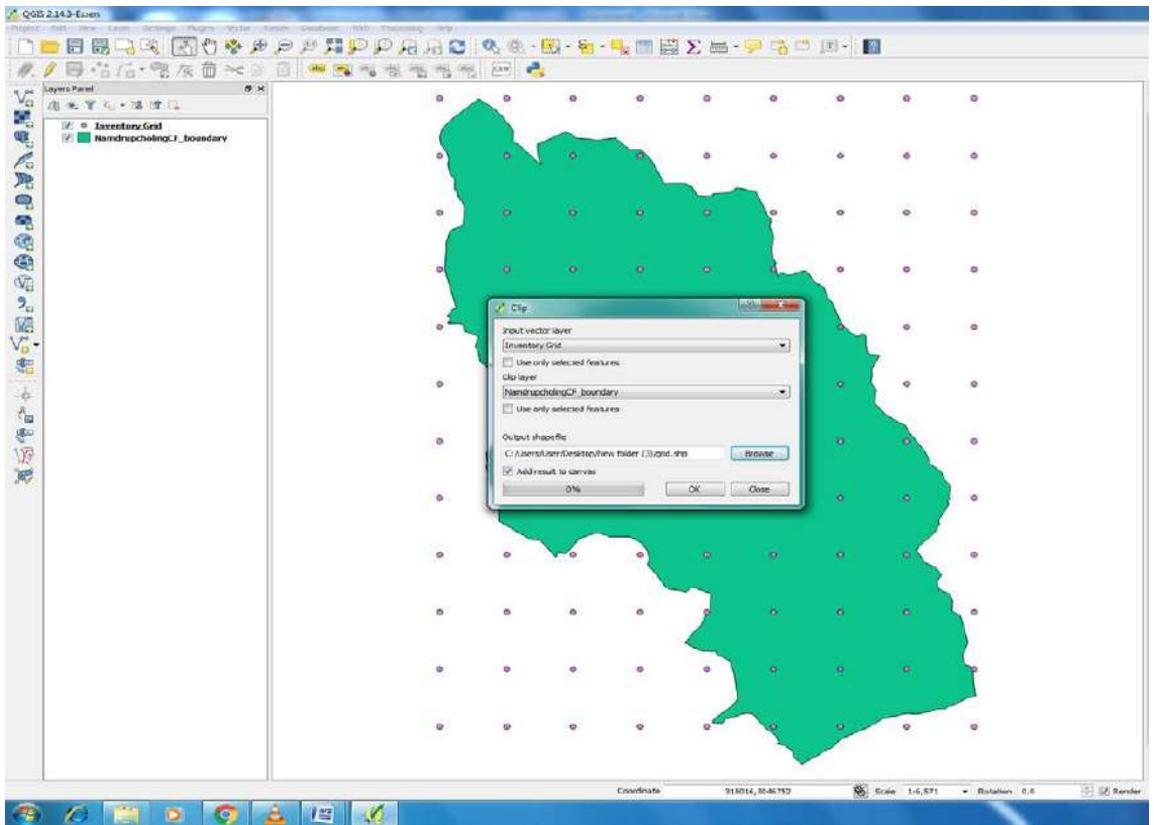

Figure 8d
- A window **“Clip”** will appear as shown in the Figure 8d. **“The input vector layer”** will be the Grid that is just created which is **“Grid\_CF”** for this case. **“The Clip layer”** will be the CF boundary shape file for which the sampling design is being created. The grid thus clipped needs to be saved by giving a file name (e.g. Grid name of the CF Final) and saving in an appropriate folder. The file can be saved by choosing the appropriate folder using **“Browse”** tap in the window. After filling up all the requirements, click **“OK”** to generate the final grid.